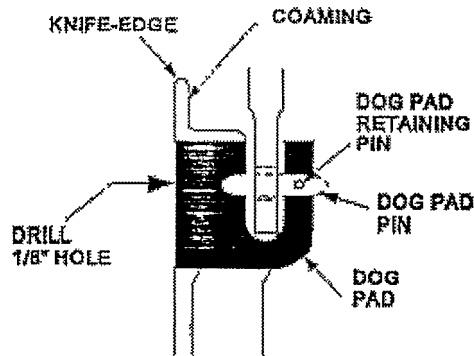

Figure 600-5.11. Removing Dog Pad Pin
- c) Drill a 1/8-inch diameter hole through the coaming. Insert a 1/8-inch diameter punch, and drive out the dog pad pin. See figure 600-5.11.